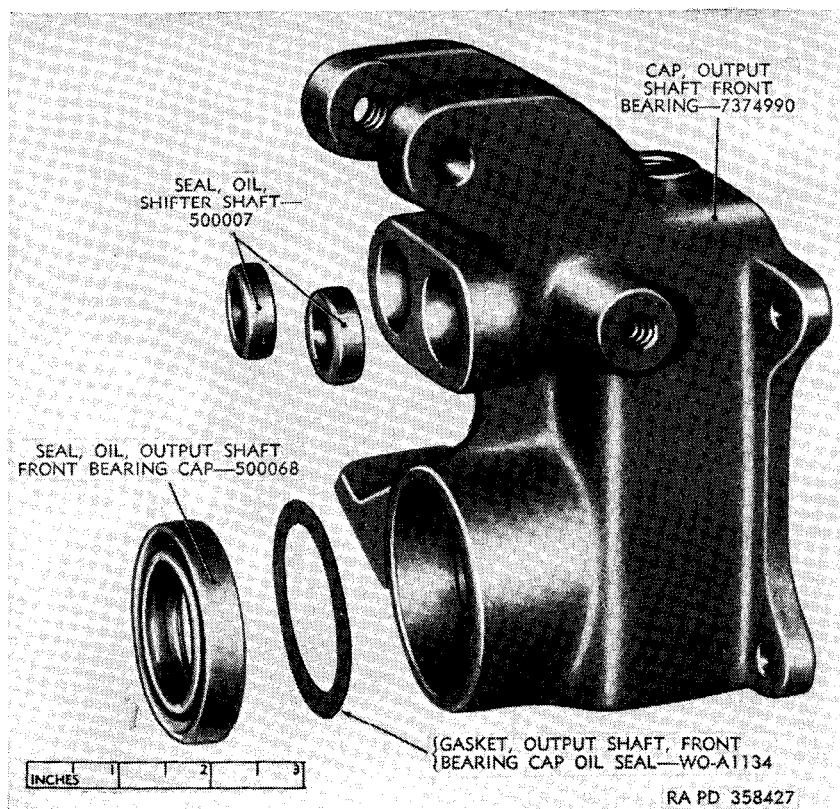

Figure 38. Output shaft front bearing cap—exploded view.
clutch gear shaft (JJ) and remove shaft. Remove the output clutch gear shaft bearing snap ring (HH) and tap the output clutch gear shaft bearing (GG) from the front bearing cap. Pry the two shifter shaft oil seals (fig. 38) from the output shaft front bearing cap. Using a brass drift, tap the output shaft front bearing cap oil seal (W) and output shaft front bearing cap oil seal gasket (X) out of the output shaft front bearing cap (fig. 38).